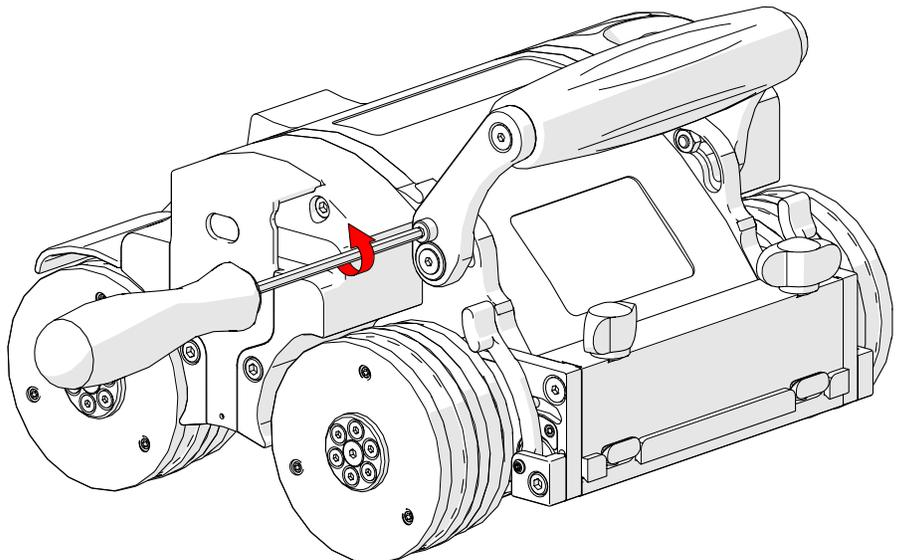

Fig. 93 - Unscrew handle lock screw
1. To lower the handle, use the supplied 3 mm driver to loosen the handle lock screws on either side of the handle (Fig. 93).